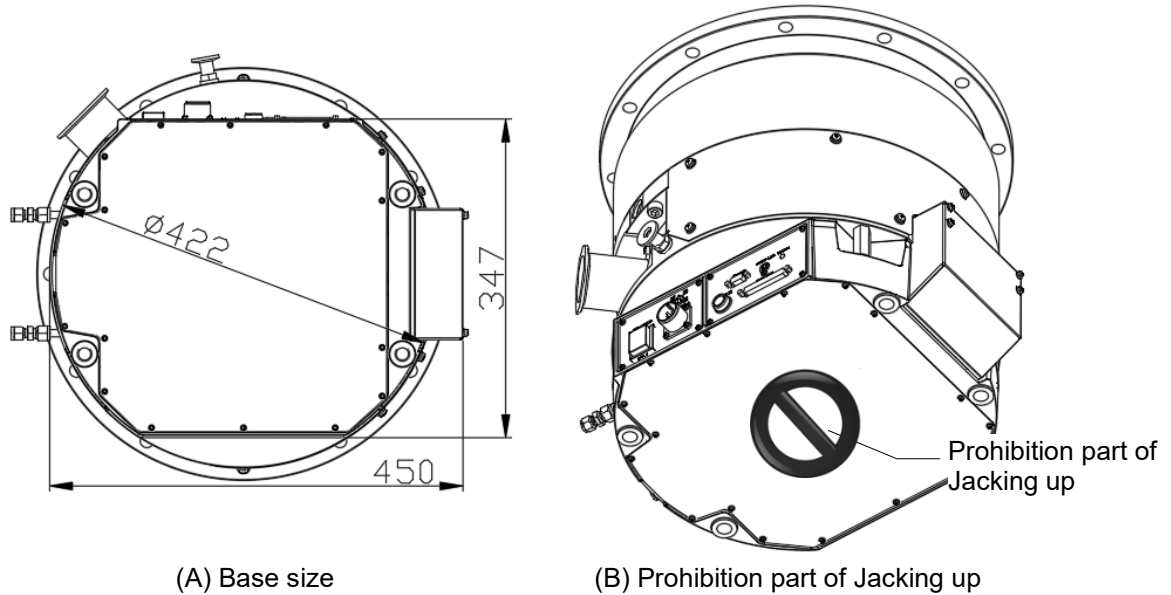

Figure 14 - Control unit bottom face
When jacking up the bottom of the control unit, place the STP pump on a larger table than the base size [Figure 14 (A)]. Jacking up the bottom plate [Figure 14 (B)] may deform the plate and break the internal parts. A device to jack up the STP pump should withstand a load of five times or more than the weight of the STP pump.